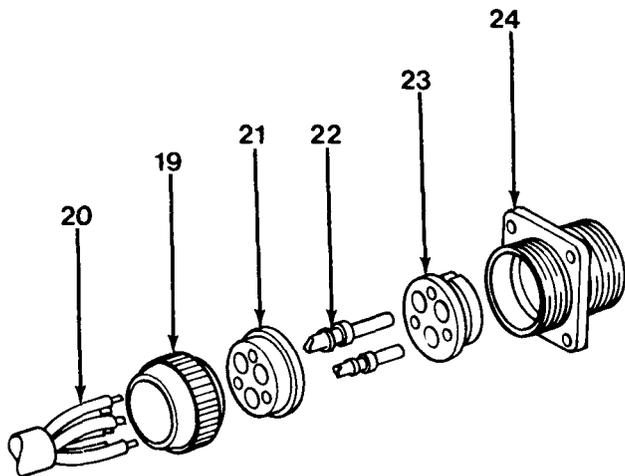

Figure 10-6
1. Strip cable insulation equal to depth of solder wells of pin contacts (22, Figure 10-6).
2. Slide nut (19) over cable.
3. Slide grommet (21) over cable leads (20).
4. Insert cable leads (20) into solder wells of pin contacts (22) and solder (use rosin core solder only).
5. Push insert (23) into shell (24) from rear until seated. Groove in insert (23) must be aligned with guide in shell (24) to insure proper fit.
6. Push pin contacts (22) into insert (23) from rear until seated.
7. Push grommet (21) down cable leads (20) and over solder wells of pin contacts.
8. Screw nut (19) onto shell assembly.